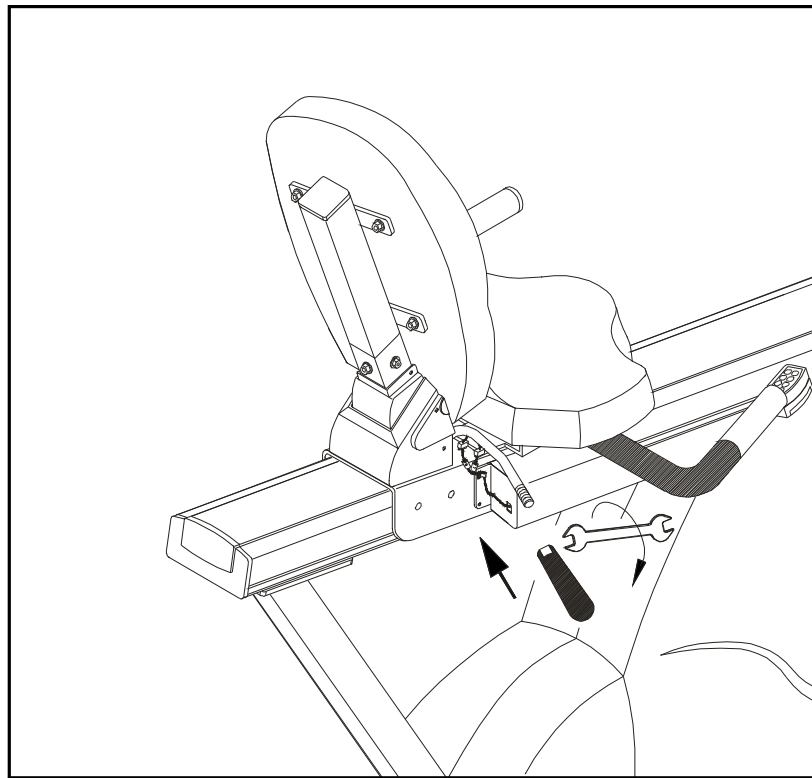

Fig.9
11. Attach the seat back adjustment handgrip to the seat back adjustment lever, using the wrench provided. (see Fig.9)